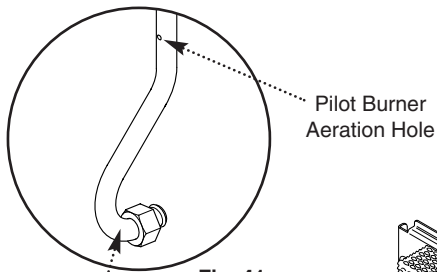

Fig. 41
2. Ensure that the pilot burner aeration hole is free from lint, debris etc (Fig. 41).